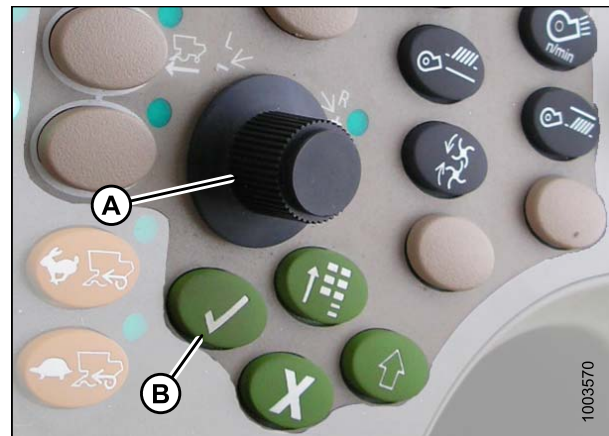

Figure 6.98: John Deere Combine Control Console
6. Select HEADER in box (A) by scrolling down to the box using the scroll knob, and then pressing the check mark button (knob and button are shown in Figure 6.98: John Deere Combine Control Console, page 190).
7. Scroll down to the lower right icon that resembles an arrow in a diamond (B) and press the check mark button to select it.